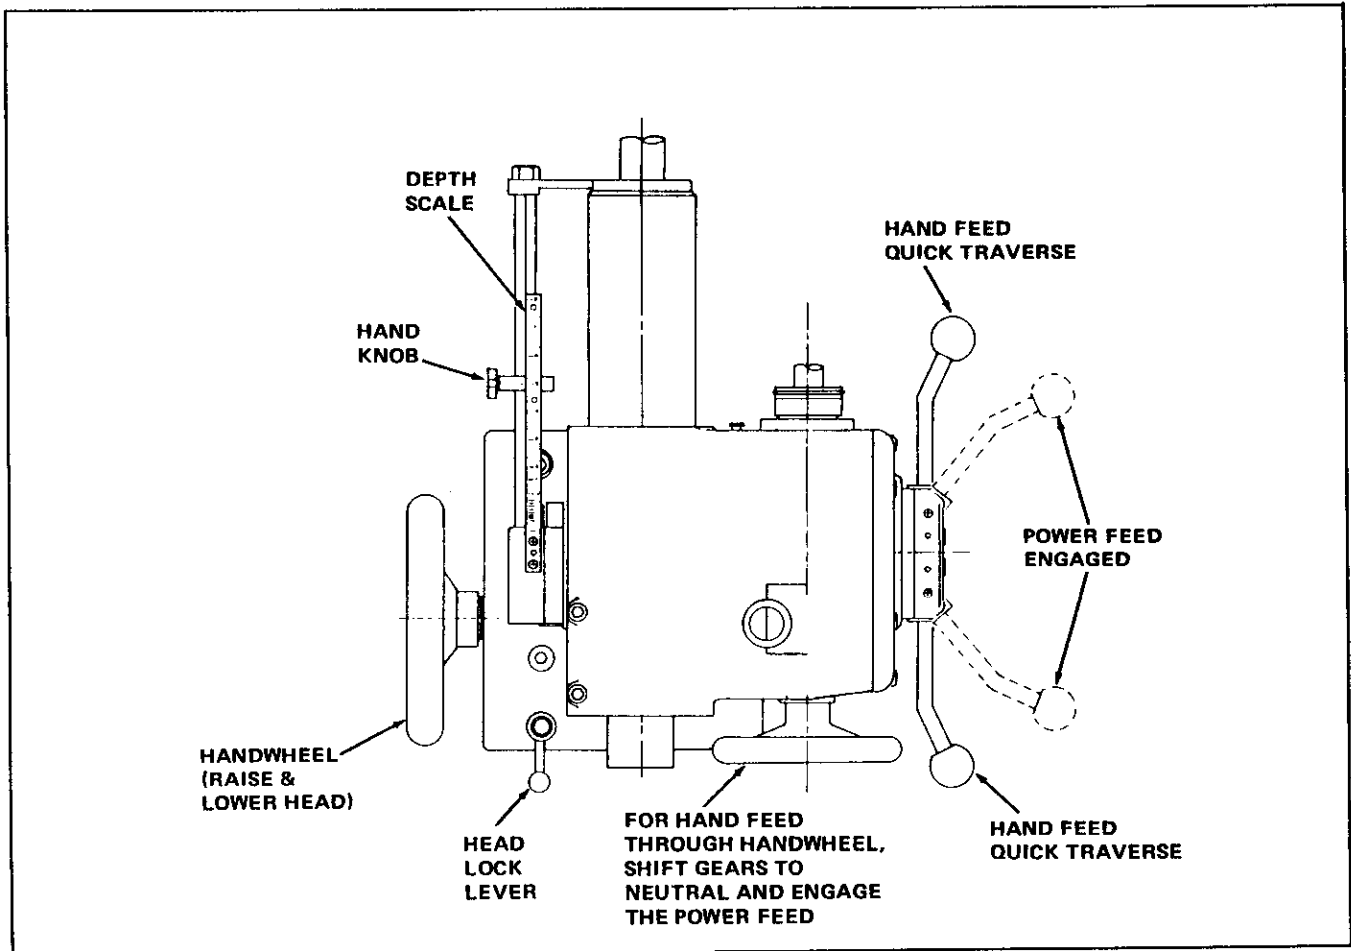

Figure 4. Sliding Head Controls
To move the sliding head, loosen the lock lever (Figure 4) and rotate the handwheel on the left side of the head.
2. Set both feed control levers, located on the right side of the top head (Figure 4), to the feed rate desired. The levers must be at matching rates. For example, if one is set at .016 the other one must be at .016.
1. To engage the power feed, thrust either of the quick traverse (turnstile) levers outward or to the right (Figure 4). A light thrust inward will disengage the power feed. It is not necessary to hold the power feed engaged, merely thrust out on the lever and then let it go. **DO NOT RIDE YOUR HAND ON THE QUICK TRAVERSE LEVERS.** Holding the power feed engaged will cause the spindle to feed past the desired point.
2. To set the feed depth gauge (Figure 4), run the drill down against the work by means of the quick traverse lever. Loosen the hand knob (Figure 4) on the feed depth scale on the left side of the sliding head and slide the knob up or down until the arrow points at the desired depth. Tighten the hand knob, start the machine and engage the power feed.
To use the hand feed through the handwheel (Figure 4), shift the feed gears to "Neutral" and thrust the quick traverse levers to the right as when engaging the power feed. The small handwheel on the bottom of the sliding head may then be used to feed the spindle for boring, counter-boring, spot-facing, heavy drilling, etc.